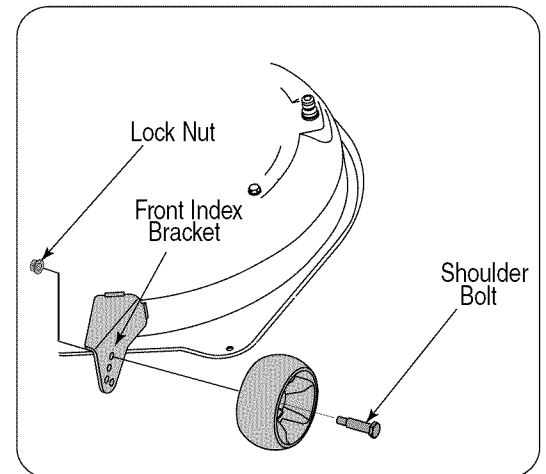

Figure 12
- Remove the shoulder bolt securing one of the front ball wheels to the front index bracket. Reposition the ball wheel to align with the one of four index holes that places the wheel 1/4" to 1/2" above the ground. Secure the ball wheel to the index bracket with the shoulder bolt. Note the index hole used and secure the other ball wheel in the same position. See Figure 12.